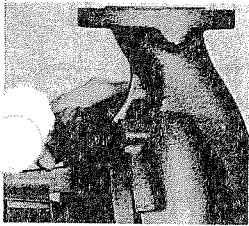

FIGURE 1
10. Reassemble bracket into pump casing. Use new gasket provided. Clean gasket surface of both casing and bracket if necessary. Be sure that the longer of the two outside bracket ribs is on top. (see Figure 1)